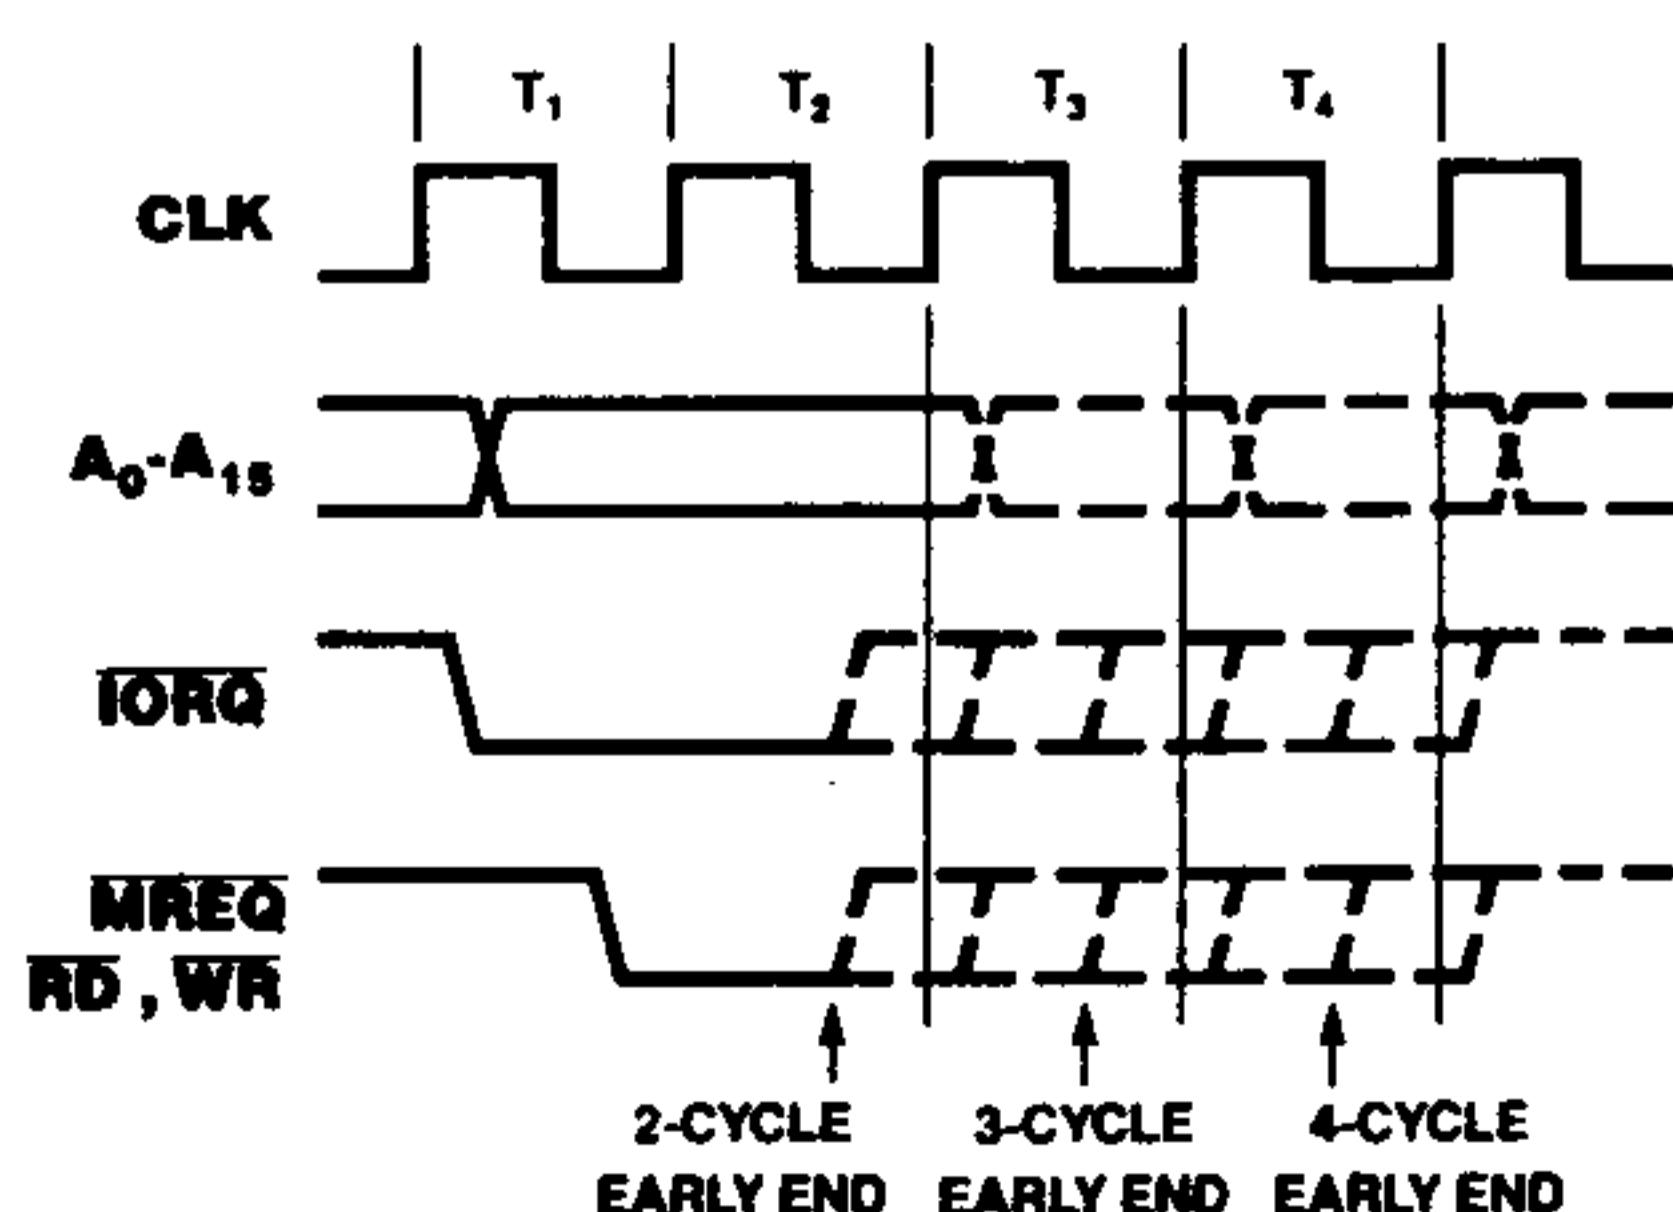

Figure 14. Variable-Cycle and Edge Timing
**Variable Cycle and Edge Timing.** The Z80 DMA's default operation-cycle length for the source (read) port and destination (write) port can be independently programmed. This variable-cycle feature allows read or write cycles consisting of two, three, or four T-cycles (more if Wait cycles are inserted), thereby increasing or decreasing the speed of all signals generated by the DMA. In addition, the trailing edges of the IORQ, MREQ, RD, and WR signals can be independently terminated one-half cycle early. Figure 14 illustrates this.